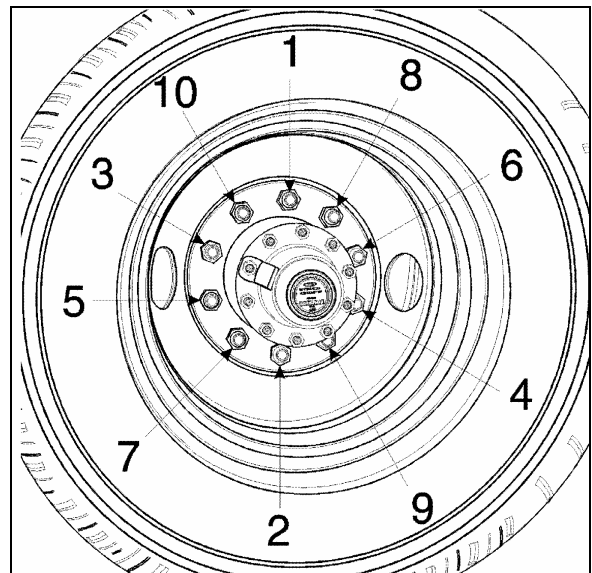
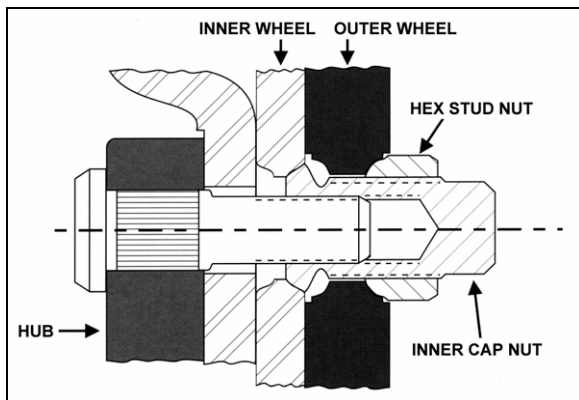

FIGURE 2: TIGHTENING SEQUENCE 13018
FIGURE 4: STUD-MOUNTED WHEELS 13007
It is also important that wheel stud nuts be tightened alternately on opposite sides of the wheel. Refer to Figure 2 for the suggested tightening sequence.
Tighten stud nuts progressively as shown in Figure 2. The final tightening should be done with a torque wrench. Tighten stud nuts to 450 - 500 lbf-ft (610 - 680 Nm) for aluminum as well as steel wheels.
2. Screw in the hex stud nuts (refer to Figure 2 for sequence) so that wheel will position itself concentrically with hub. This is important, otherwise wheel may be eccentric with hub and will not run straight. In this initial step, slightly tighten the nuts to correctly position the wheel;
3. Tighten stud nuts progressively as shown in Figure 2. The final tightening should be done with a torque wrench. Tighten stud nuts to 450 - 500 lbf-ft (610 - 680 Nm) for aluminum as well as steel wheel.
2. Screw in the inner cap nuts (Fig. 4), so that wheel will position itself concentrically with hub. Refer to Figure 2 for sequence;
3. Tighten inner cap nuts progressively according to sequence shown in Figure 2. Final tightening should be done with a torque wrench. Tighten inner cap nuts to 450 - 500 lbf-ft (610 - 680 Nm) for aluminum as well as steel wheel.
With inner wheel installed, tighten the hex stud nuts (Fig. 4) using the single wheel installation procedure described previously.
1. Loosen a hex stud nut three turns (Fig. 4);
Repeat for each of the 10 "hex stud nut - inner cap nut assemblies" according to the tightening sequence in Figure 2.